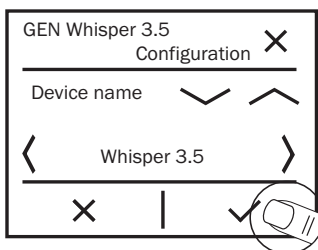

Figure 10
- 6 Touch the right pointing arrow > on the menu bar. Device name is shown (figure 10). By default the model name of the Whisper generator set is shown. You can change the device name by touching the up/down/left/right pointing arrows. Touch ✓ to finish.